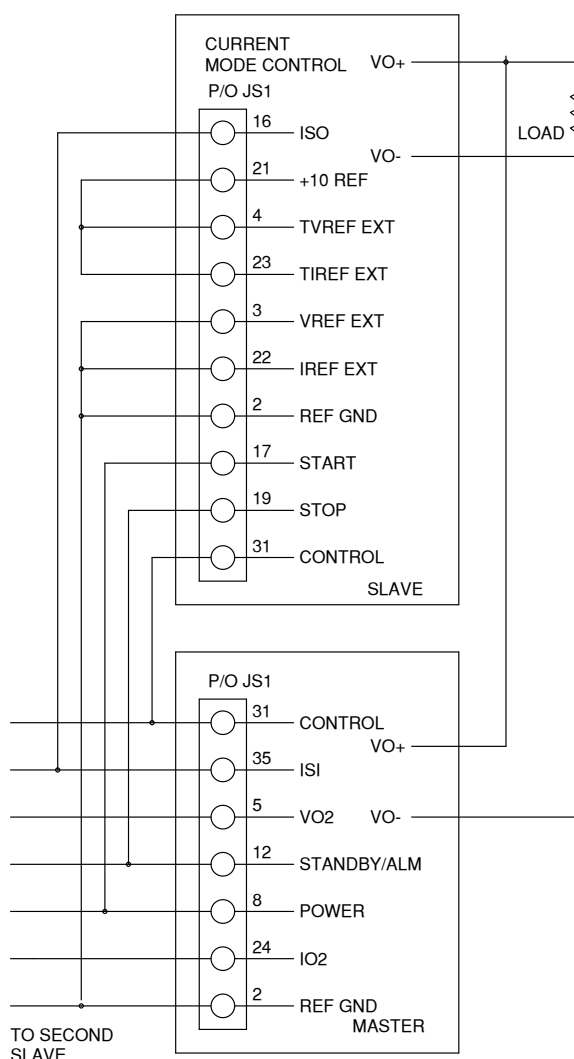

Figure 3.16. Master/Slave parallel connection
*Figure 3.16, “Master/Slave parallel connection”* illustrates the terminal connection for master/slave parallel operation and salient control circuitry. The control cable can be fabricated by the user or purchased as an option, UID47, from the factory. These connections perform the following functions: